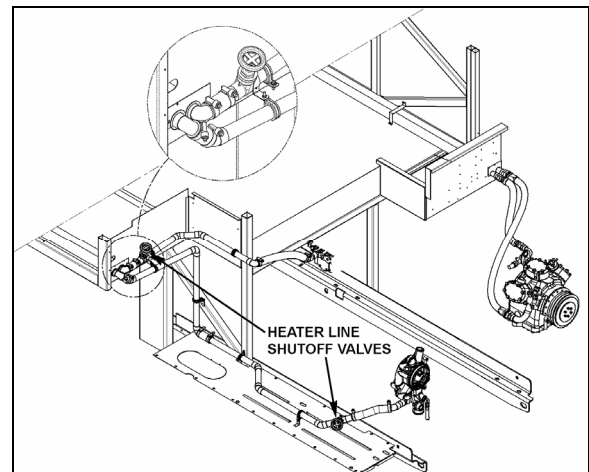

FIGURE 10: HEATER LINE SHUTOFF VALVES (W5)
1. Stop engine and allow engine to cool. Close both heater line shutoff valves (Refer to figures 10, 11, 12 & 13).